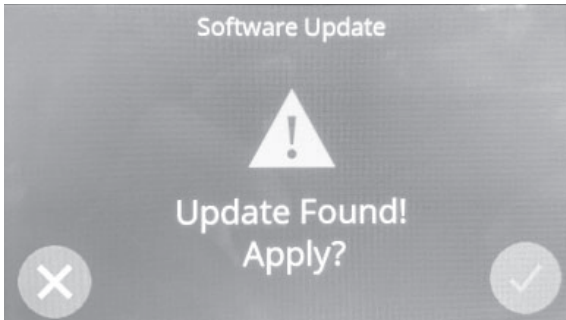

Figure 26
Once a USB drive with the correct files is plugged in and the “Software” button is pressed, the following screen will appear. To proceed with the update, press the “checkmark” button. To cancel the update, press the “X” button. (Figure 26).
1. To shut down your oven, press the Back Button to return to the Home screen. The conveyor should stop moving; however, the fans will continue to run if the oven is hot. (Figure 26)